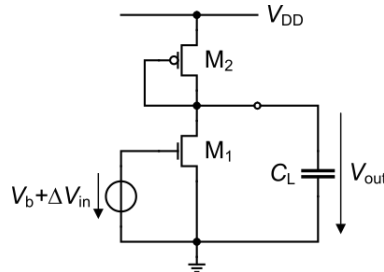

Figure 1.1: Schematic of an elementary gain stage with diode connected load.
Figure 1.1 shows the schematic of a simple common-source (CS) gain-stage with a diode-connected pMOS load. We first will analyze the small-signal operation of this circuit and then will design it for the specifications given in Table 1.1 for a generic 180nm bulk CMOS process. Finally we want to validate the design with circuit simulation.
- Draw the small-signal schematic of the CS gain stage of Figure 1.1 including all the noise sources.